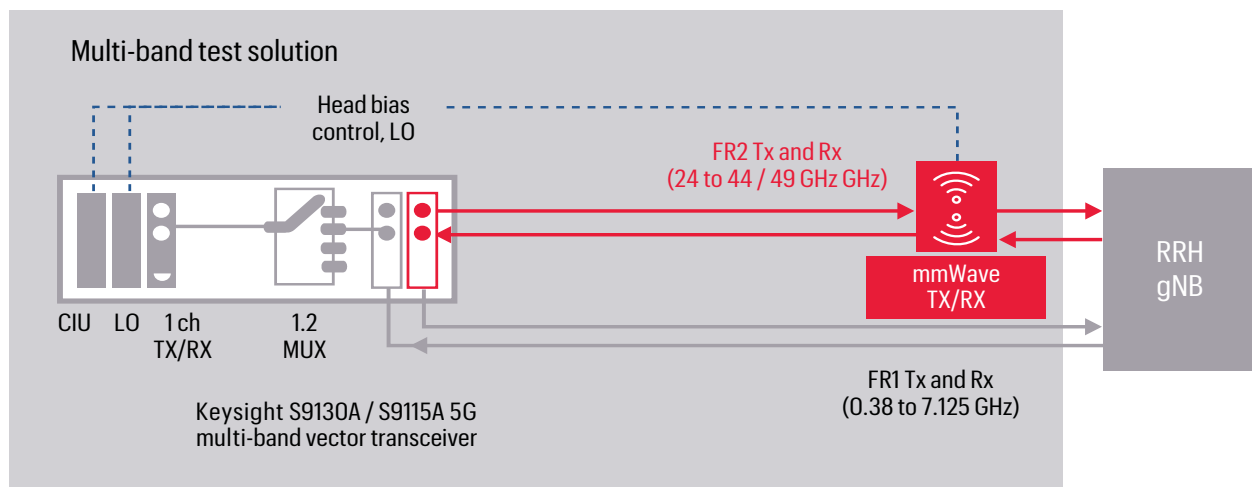

Figure 4. OTA test with remote mmWave transceiver head (in red) helps reduce insertion loss
A banded solution is a common approach to high-volume production tests. A 7.125-GHz vector signal analyzer (VSA) and a vector signal generator (VSG) are essential for FR1 in-band RF test cases. The VSA and VSG can be an intermediate frequency (IF) signal analyzer and signal generator, coupled with an external mmWave transceiver for FR2 in-band tests. Figure 4 shows a banded solution for FR2 to reduce the insertion loss using a remote mmWave transceiver head to cover FR2. Move the head as close as possible to the antenna to shorten the mmWave signal routing. This approach is less costly than using a high-performance microwave VSA and VSG. However, you need to calibrate the external path and channel response. The next section covers extension calibration.